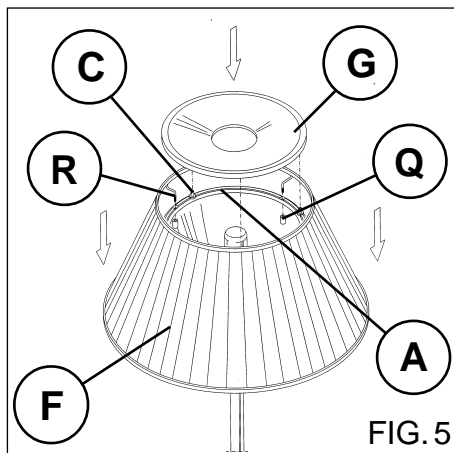

FIG. 5
Fig. 5 Position the fabric crown (F) on the support ring (A) taking care to insert the hooked screws (R) into the specially holes in the ring (A), screw up the fixing rollers again (Q). Rest the covering ring (G) on the pins (C).